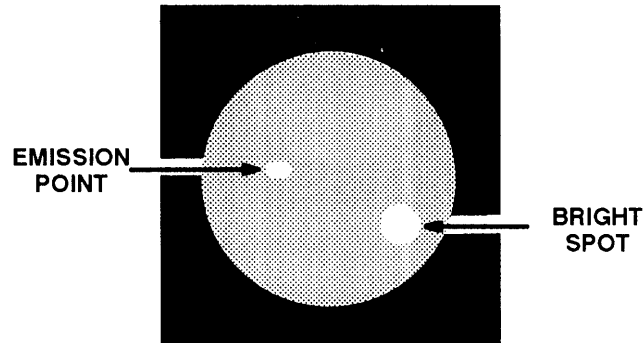

Figure 3-9. Bright Spots and Emission Points.
c. Bright Spots. These are defects in the image intensifier. A bright spot is a small, nonuniform, bright area that may flicker or appear constant (Figure 3-9). Not all bright spots make the goggle unacceptable. Cup your hand over the objective lens to block out all light. If the bright spot remains, it is an emission point; refer to subparagraph d below for evaluation. If the spot disappears, you must place the goggle onto the TS-3895 or TS-3895A test set and turn the selector knob to HIGH LIGHT for 15 seconds and note the spot's location. Turn the selector knob to LOW LIGHT and wait another 15 seconds. If the spot disappears or is faintly visible, it is acceptable. If the spot is rejectable, you must replace the image intensifier.
d. Emission Points. A steady or fluctuating pinpoint of bright light in the image area and does not go away when all light is blocked from the objective lens (see Figure 3-9). The position of an emission point within the image area does not move. Not all emission points make an image intensifier rejectable. If a bright spot remains when you cup your hands over the objective lens (subparagraph c above), you must place the goggle onto the TS-3895 or TS-3895A test set and turn the selector knob to LOW LIGHT and note the point's location. Then turn the selector knob to HIGH LIGHT. If the point disappears or is faintly visible, it is acceptable. If the point is rejectable, you must replace the image intensifier.